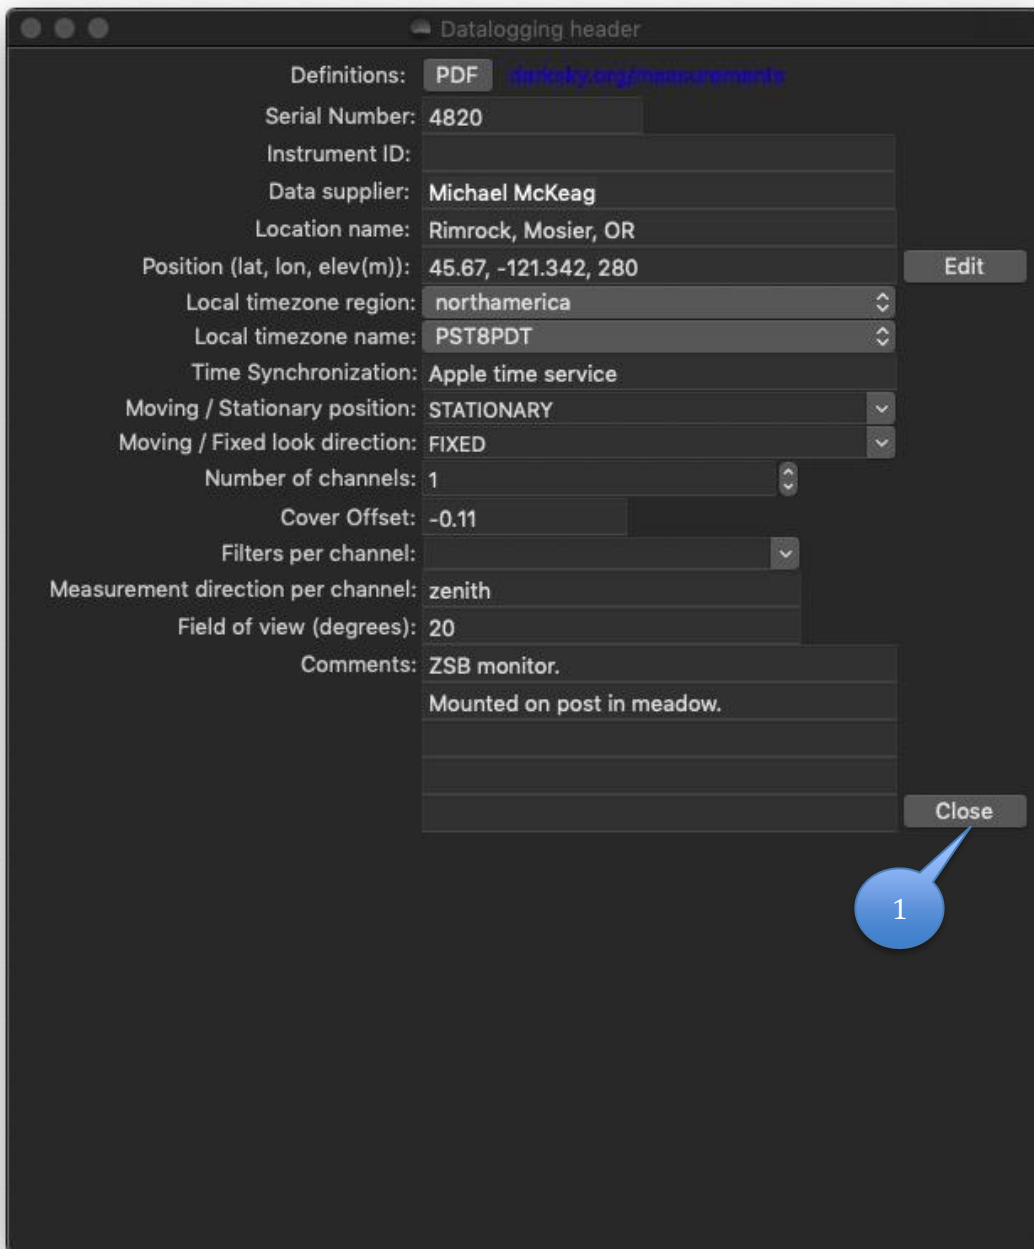

Figure 2: UDM Datalogging Header window. Verify, and update or correct if necessary, header information.
- a. The Information tab (2) is selected by default upon launch.
- b. USB connection is selected by default upon launch, with USB port details listed below the connection type selection bar (3).
- c. The current measurement is displayed in the Measurement box (4).
- d. SQM device details are displayed in the Version box (5).
- e. The last reading details are displayed in the Reading box (6).
3. Click Header button under Logging (7) to open the Datalogging Header window (*Figure 2*)
- c. Click Close (1) to close the Datalogging Header window (Figure 2) and return to the UDM main window (Figure 1).